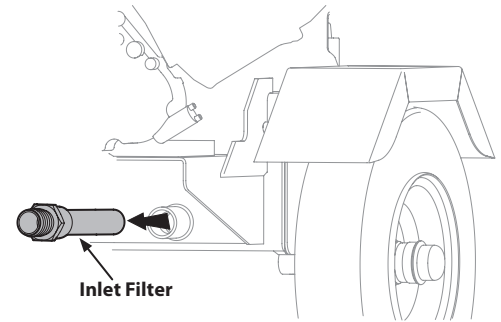

Figure 20
5. Carefully un-thread the inlet filter and clean it with penetrating oil. See Figure 20.